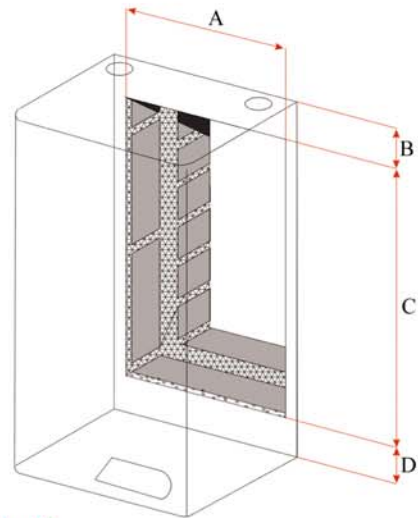

Fig. 12
1. CUT A HOLE IN THE WALL (Fig. 12)